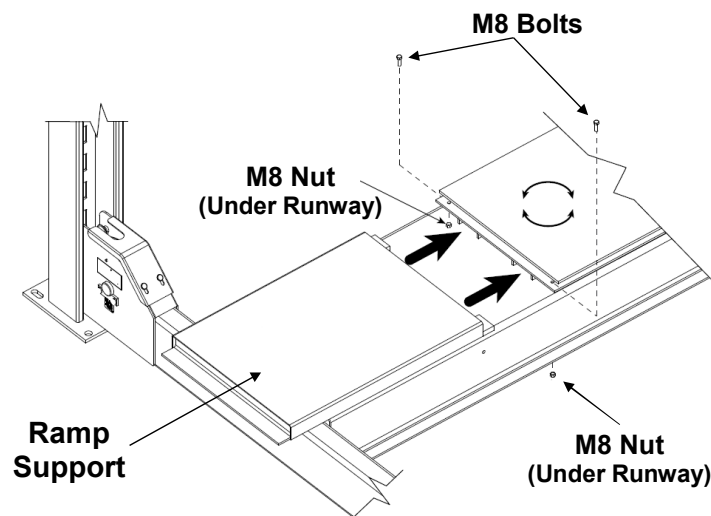

Fig. 7
- 9) Position and slide the Ramp Support (#7) Tabs under the rear of the Slip Plate. Access the rear Slip Plate holes by angling the rear of the Slip Plate. Align the rear Slip Plate holes to the Tab Holes for the Ramp Support & Runway, secure using M8 Bolts & Nuts - **Fig. 7.**